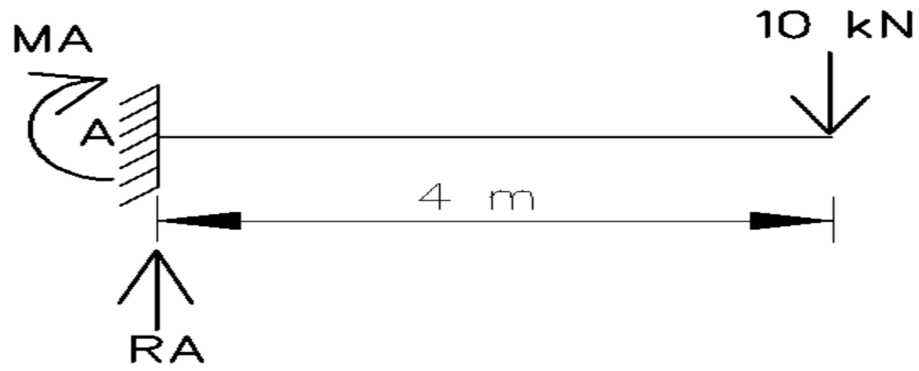

Fig 2
9. Figure 2 shows a cantilever beam subjected to a point load. Analyze the beam for bending moment and draw shear force and bending moment diagrams. (5 Marks)